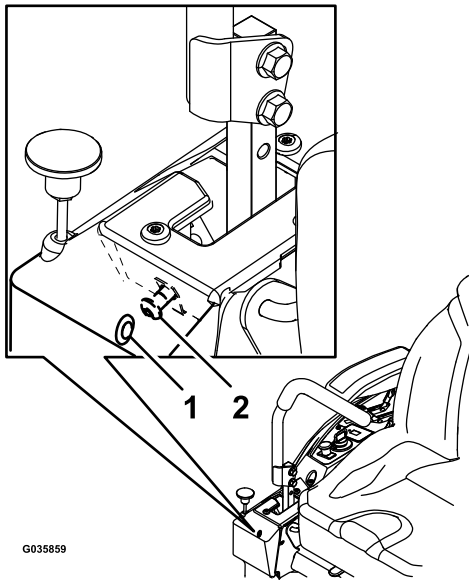

Figure 56
6. If the machine tracks to the right, insert a 3/16 inch hex wrench through the access hole in the right front cover panel and rotate the tracking screw clockwise or counterclockwise to adjust the travel of the lever (Figure 56).
7. If the machine tracks to the left, insert a 3/16 inch hex wrench through the access hole in the right front cover panel and rotate the tracking screw clockwise or counterclockwise to adjust the travel of the lever (Figure 56).